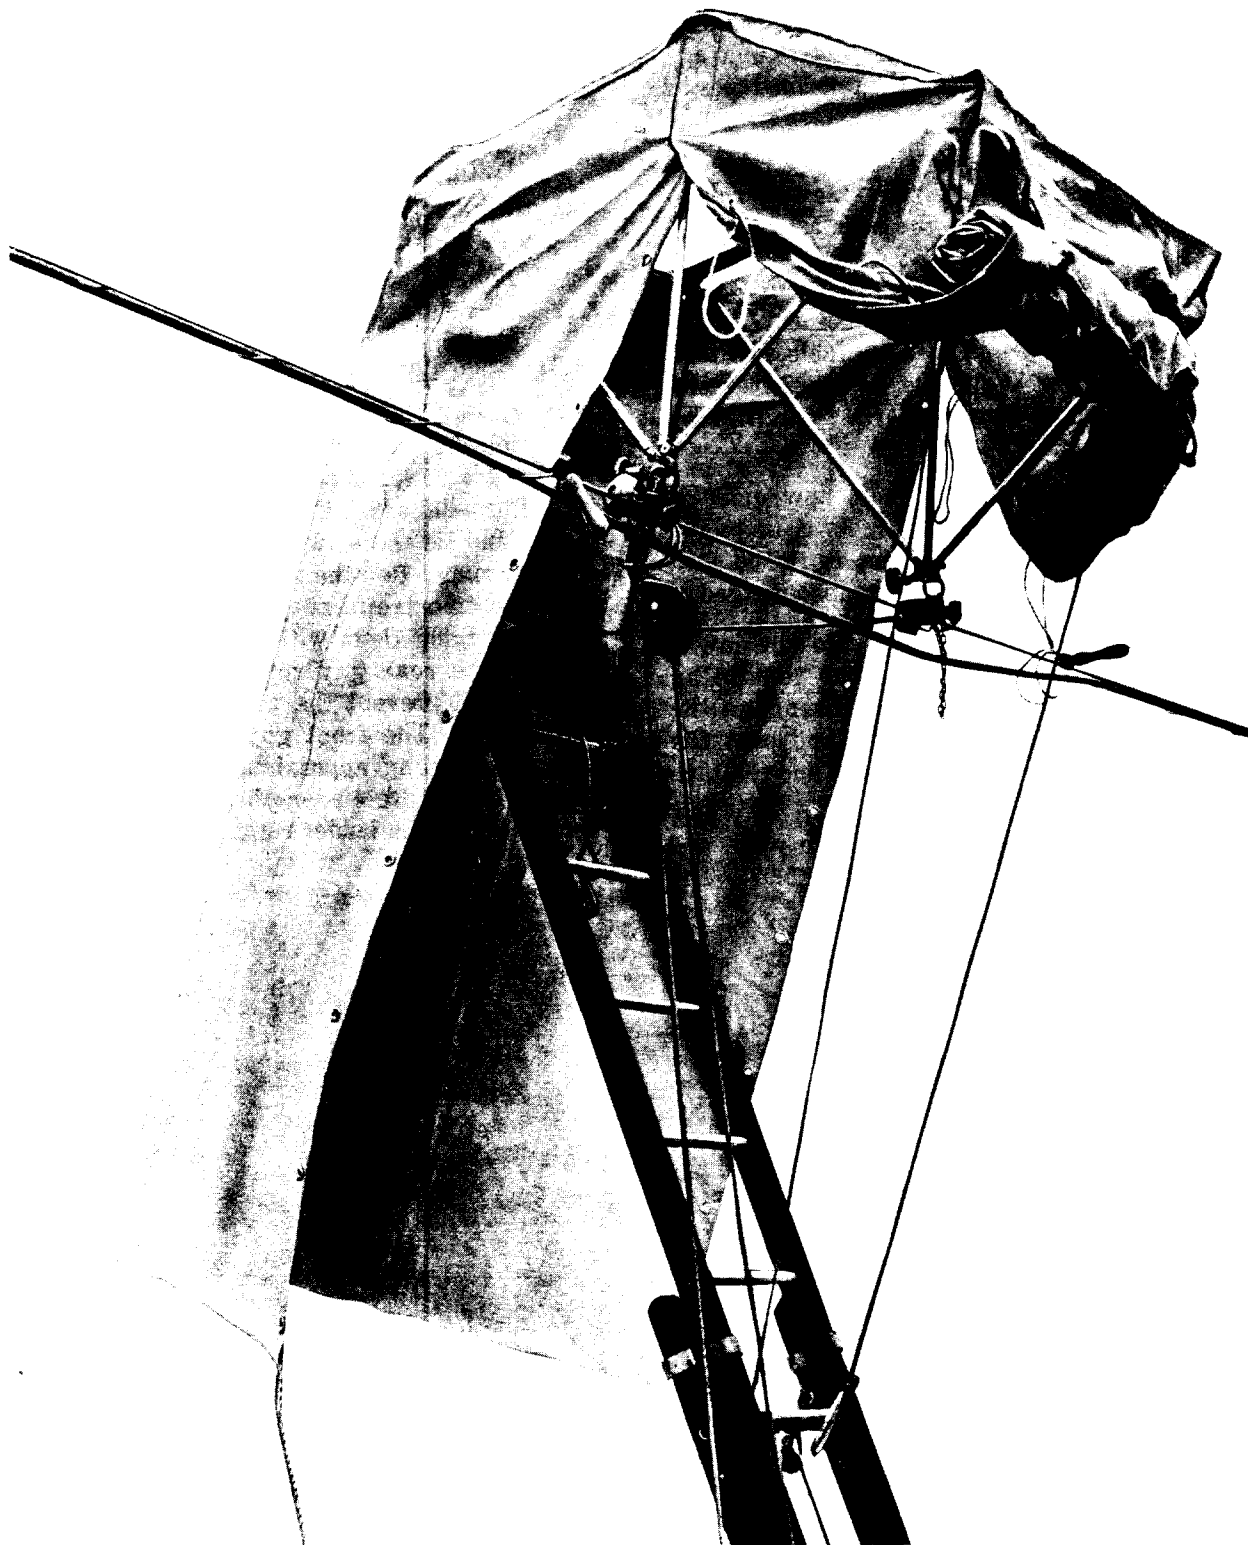

Fig. 10—D Workman's Tent Placed on Ladder
5.14 Untie the sidewall ropes, unroll the sidewalls, and lace the ends as required. Figure 10